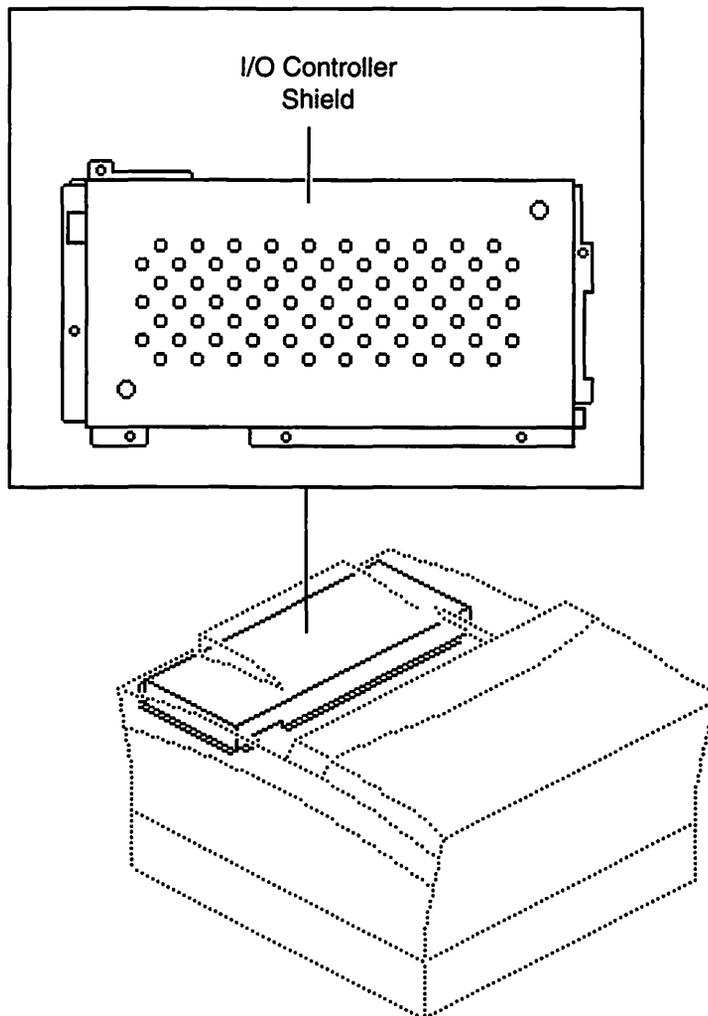

Figure 1-4
- The I/O controller shield (see Figure 1-4) covers the I/O controller board and controller mount. The I/O controller shield must be removed to see the I/O controller board.